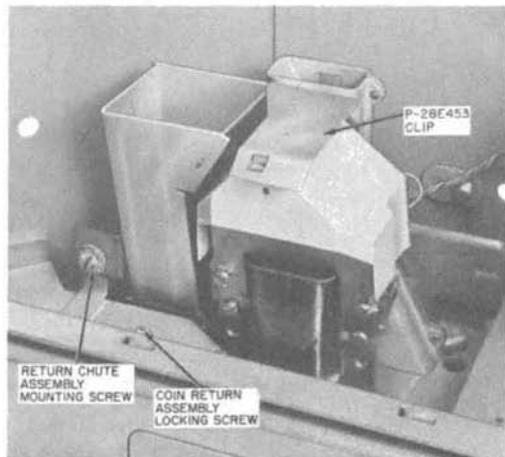

Fig. 7—Coin Relay and Return Chute Assembly
Return Chute Assembly**2.12** To remove return chute assembly (Fig. 7):
2.14 To remove coin relay (Fig. 7):
- (3) Install dust cover and P-28E453 clip (Fig. 7).
- (4) Install return chute assembly (2.12).
- (1) Remove return chute assembly (2.11).
- (2) Remove coin return assembly locking screw (Fig. 7).
- (3) Insert finger in coin return and tilt top forward.
- (4) Lift coin return. Pull coin return assembly out and up.